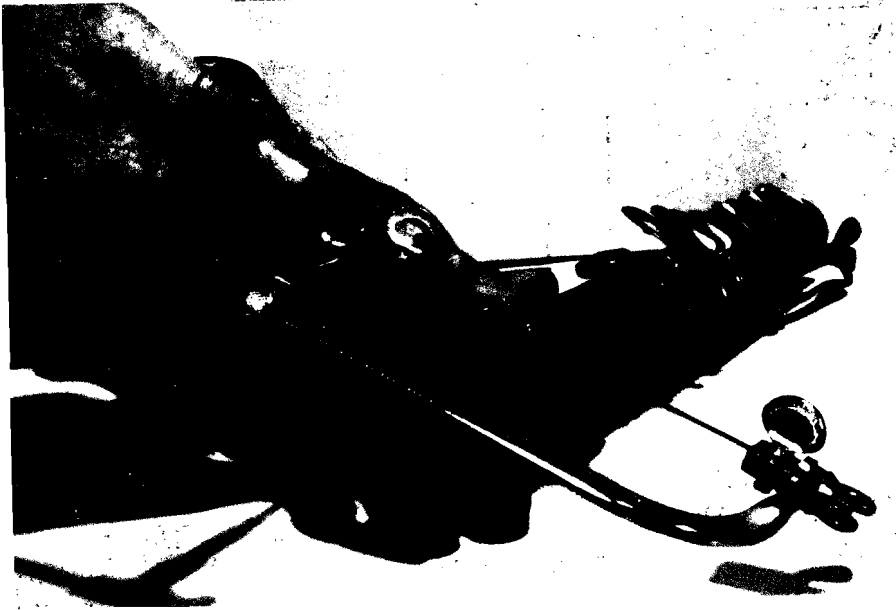

Figure 53
3. If the screw slot has been "wallowed out", saw a new (or deeper) slot in the pivot screw or hinge rod with the jewelers' saw (Figure 53). Although this may mean sawing slightly into the post, it will not ruin the post.